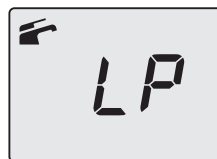

Figure 7.6
- The letters **LP**, alternating with the minimum heating water temperature (e.g. **45**), appear on the screen indicating the activation of the "chimney sweep function" at minimum power (Figure 7.6).